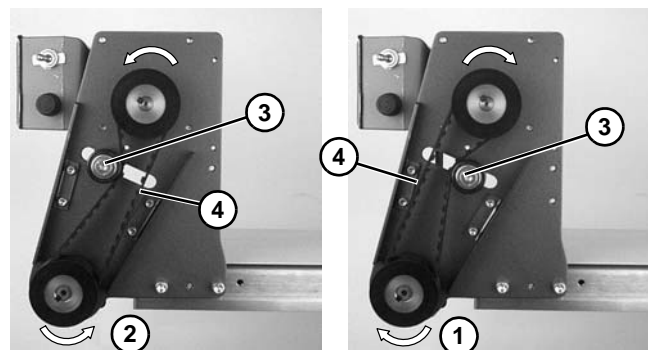

Figure 19
3. Depending on direction of conveyor belt travel (1 or 2 of **Figure 19**), position timing belt tensioner (**Figure 19, item 3**) as shown. Tension timing belt to obtain 1/8" (3 mm) deflection for 1 lb (456) grams of force at timing belt mid-point (**Figure 19, item 4**). Tighten tensioner screw to 106 in-lb (12 Nm).
5. Depending on direction of conveyor belt travel (1 or 2 of Figure 19), position timing belt tensioner (Figure 19, item 3) as shown. Tension timing belt to obtain 1/8" (3 mm) deflection for 1 lb (456 grams) of force at timing belt mid-point (Figure 19, item 4). Tighten tensioner screw to 106 in-lb (12 Nm).